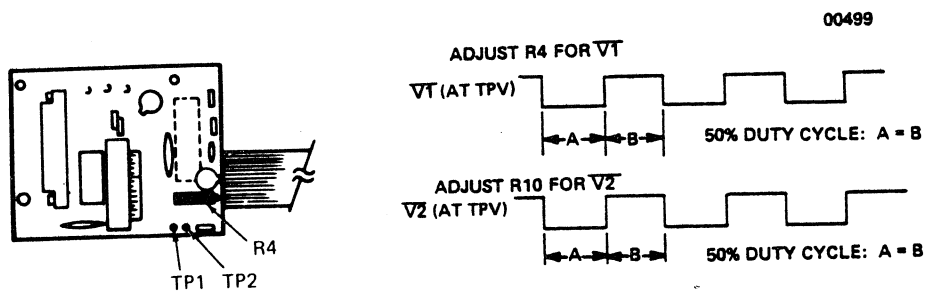

Figure 3-6. DUTY CYCLE ADJUSTMENT
3. Electrical Adjustment of Video No. 1 and No. 2 (Refer to Figure 3-6).
- d. Monitor V1 at TPV (test connector, pin 3) on the 780 electronics board and check the duty cycle while the print head is moving at a constant speed. FOR A DUAL CHANNEL VIDEO AMPLIFIER, BE SURE THE NORMAL CHARACTER DENSITY IS SELECTED VIA THE ALT PRINT SWITCH ON THE CONTROL PANEL. If the duty cycle is not 50% as shown in Figure 3-6, stop the print head, adjust R4 slightly, start print head motion, and recheck duty cycle. Repeat until 50% duty cycle is achieved.